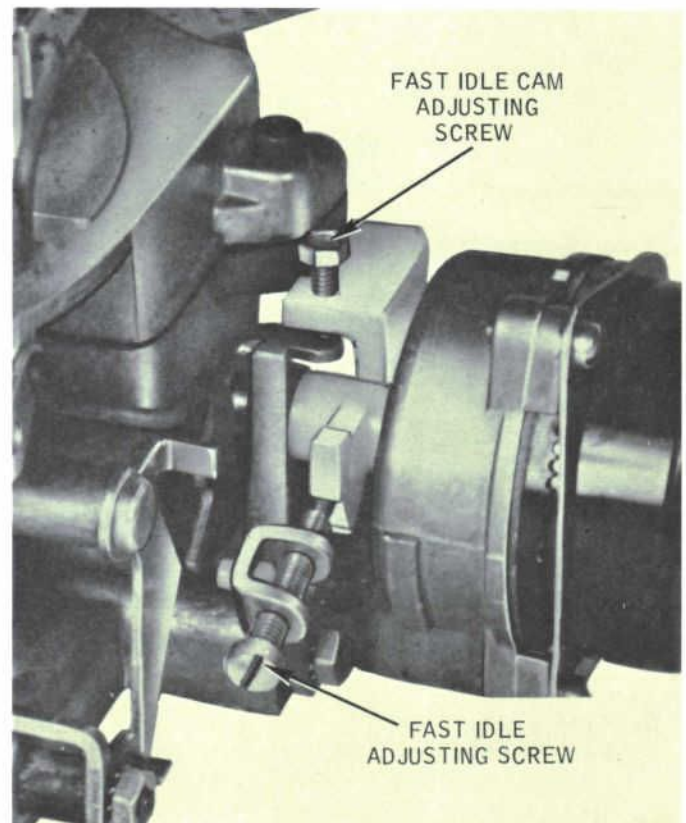

Fig. 29 — Fast Idle Cam Position for Engine Warm - Up
1. The engine and underhood temperatures must be stabilized before idle adjustments are made. Therefore, operate the engine a minimum of 20 minutes at 1500 rpm. This can be done by positioning the fast idle screw on the intermediate step of the fast idle cam (Fig. 29).